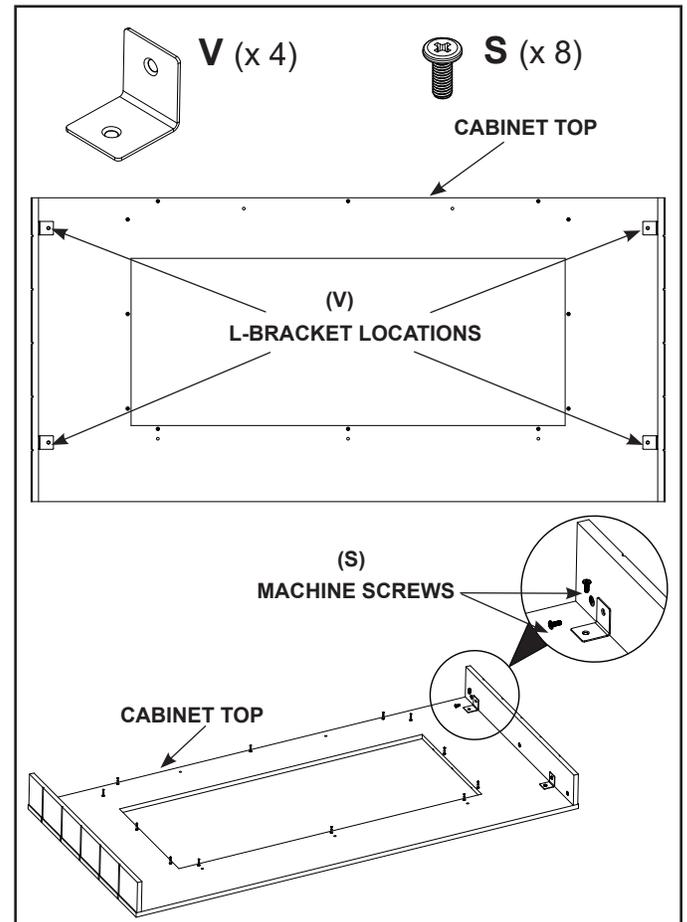

Figure 8
- Install four (4) (V) L-Brackets using eight (8) M6 X 10 screws (S) securing parts “C” and “D” to part “A”. See Figure 8.